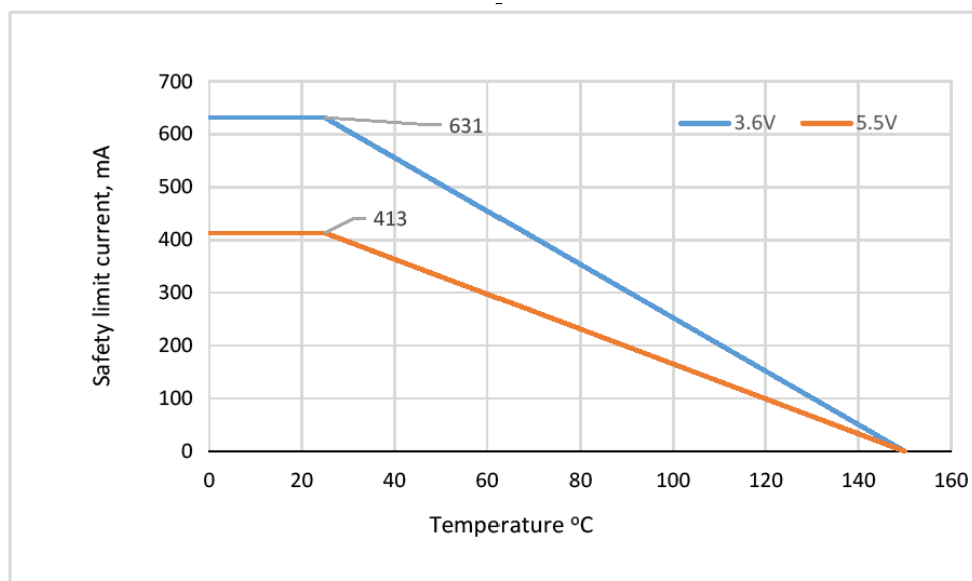

Figure 43. WB SOIC-20/24 Thermal Derating Curve (Dependence of Safety Limiting Values)
1. Maximum value allowed in the event of a failure. Refer to the thermal derating curve in Figure 43 on page 32.